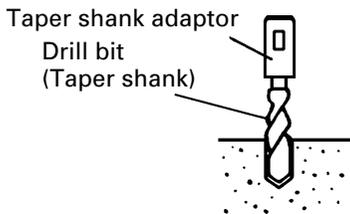
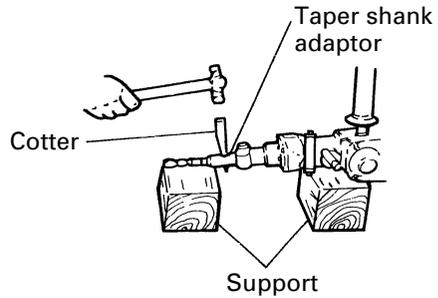

Fig. 10
Fig. 11
- (1) Install drill bit with taper shank in the taper shank adaptor. (Fig. 10)
- (2) Turn the power on and drill a base hole.
- (3) After cleaning out dust with a syringe, attach the plug to the anchor tip and drive in the anchor with a manual hammer.
- (4) To remove the drill bit with taper shank, insert a cotter into the slot of the taper shank adaptor, place supports under the Rotary Hammer and tap the cotter with a manual hammer. (Fig. 11)